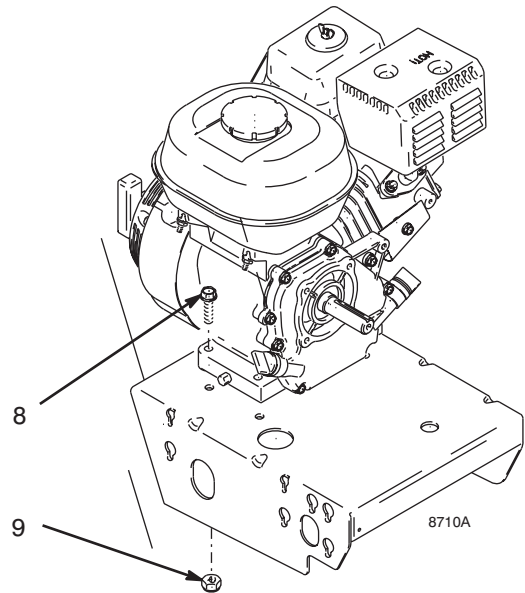

FIG. 14
3. FIG. 14. Remove two locknuts (9) and screws (8) from base of engine.
2. FIG. 14. Install two screws (8) in base of engine and secure with locknuts (9). Torque to 200 in-lb (22.6 N·m).